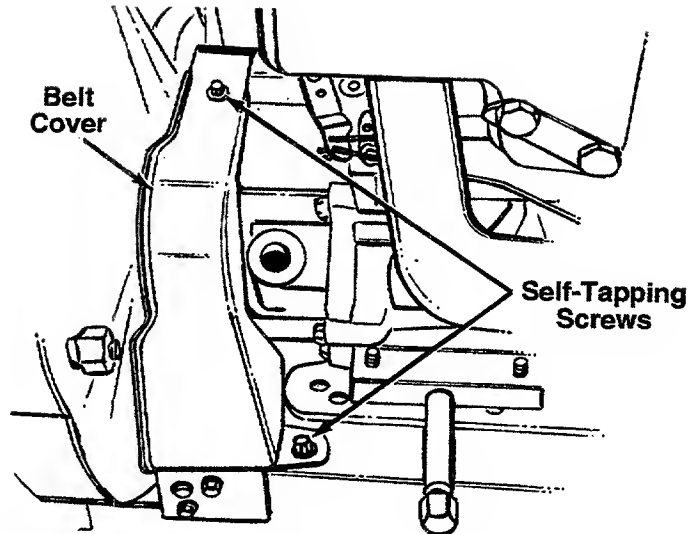

FIGURE 20.
- Remove the plastic belt cover on the front of the engine by removing the two self-tapping screws. See figure 20.